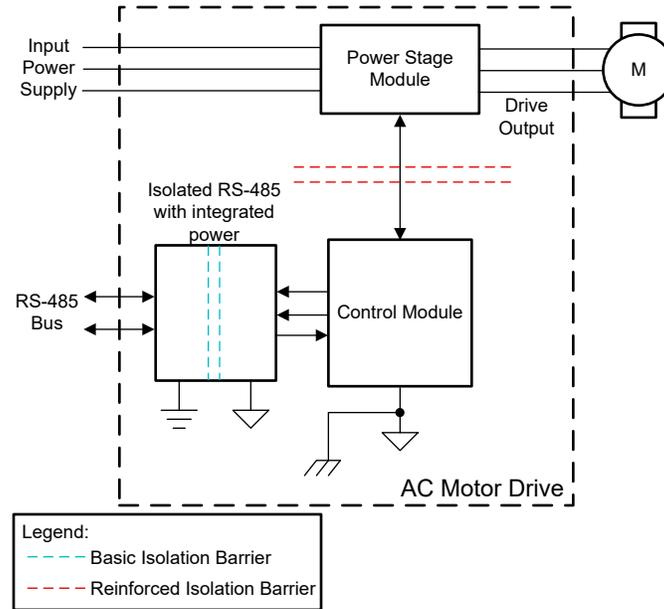

Figure 6. Typical block diagram of AC Motor drive
- AC Motor Drive:** An alternating current (AC) motor drive, as shown in Figure 6, where the RS-485 interface communicates with the programmable logic controller (PLC), potentially thousands of meters away. There can be a large ground potential difference between the ground of the control module on the AC drive and the bus side ground on the PLC which creates the need to isolate the transceiver to prevent ground loops which can corrupt the communication. ISOW14xx is the ideal device for this external communication use case since often times an isolated power supply is needed only for the isolated RS485 interface. In addition to the board space savings and simplicity, the PROFIBUS support improves SNR for better noise immunity, and the integrated ESD protection allows for TVS diodes to be removed from the bus.